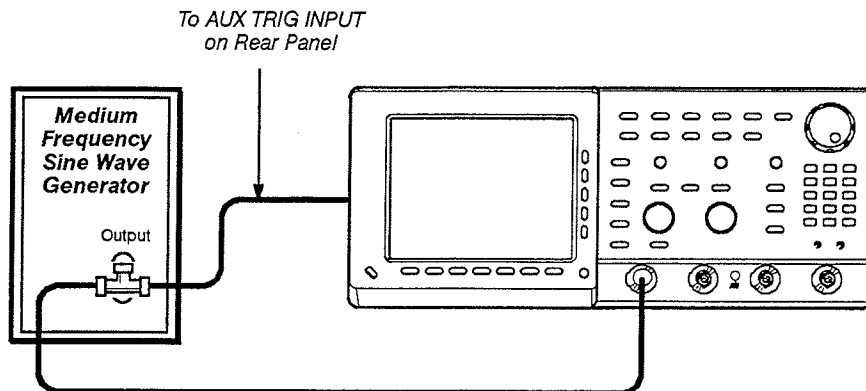

Figure 4-18: Initial Test Hookup
- Connect the other output of the T connector through a second 50 Ω precision coaxial cable to the **AUX TRIG INPUT** at the rear panel. See Figure 4-18.